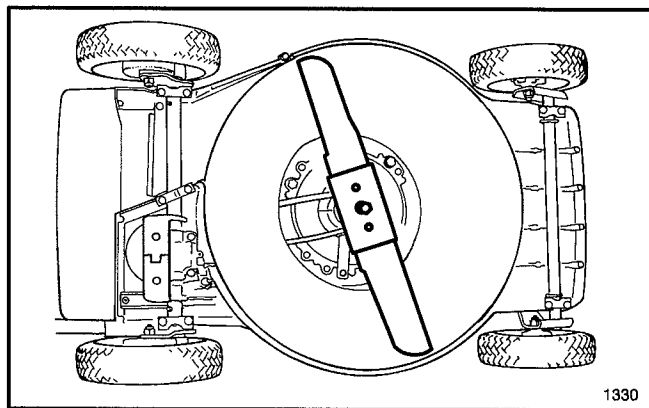

Figure 20
3. Tip mower on its left side (Fig. 20). Avoid rotating blade as starting problems may result.